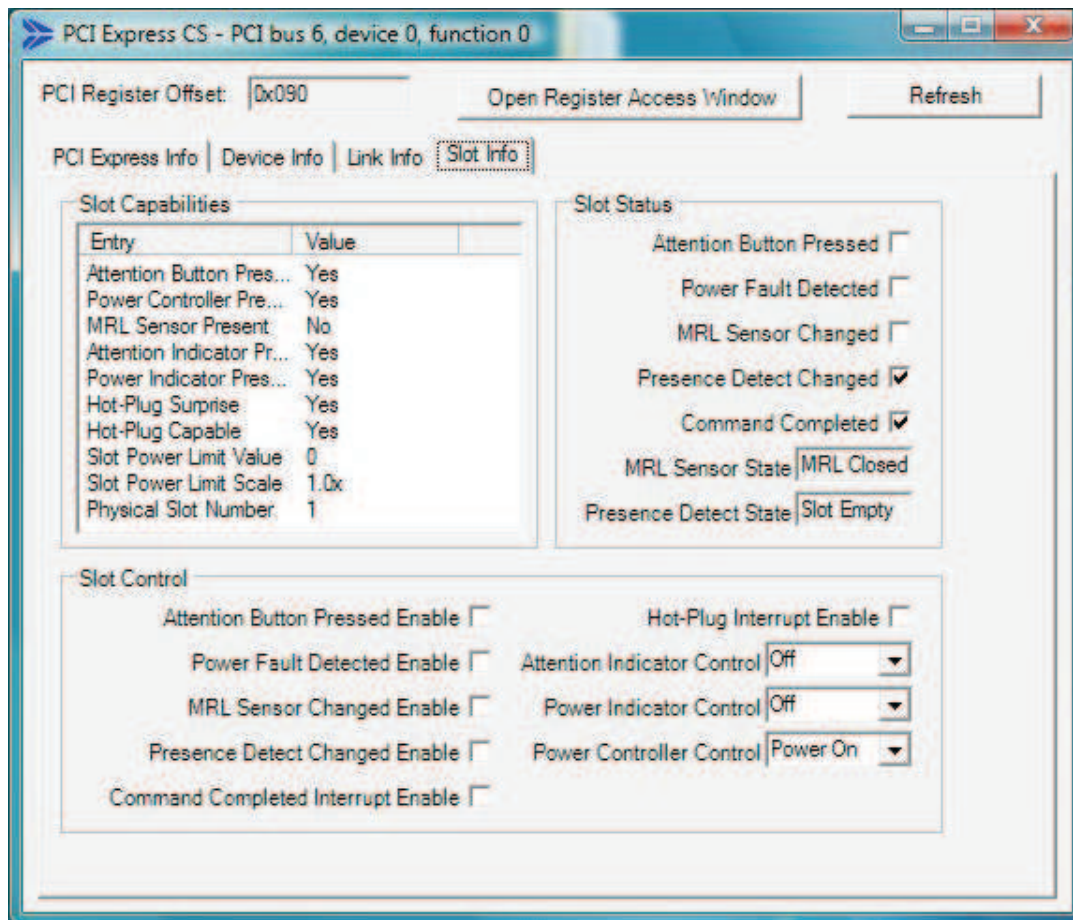

Figure 1-16. Slot Info
TopHAT parses the PCI configuration space looking for any capability structure. If it finds a capability structure, a new icon and description of the capability will show under the device. For example, under the XIO3130 PCI/PCI bridge (TI) entry, a capability for Power Management Capability Structure is shown with a PM icon. Double clicking any of the capabilities opens a new dialog box. Some dialog boxes have tabs that display more information about the capability. Figure 1-16 shows the contents of the “Slot Info” tab for the PCI Express Capability Structure.